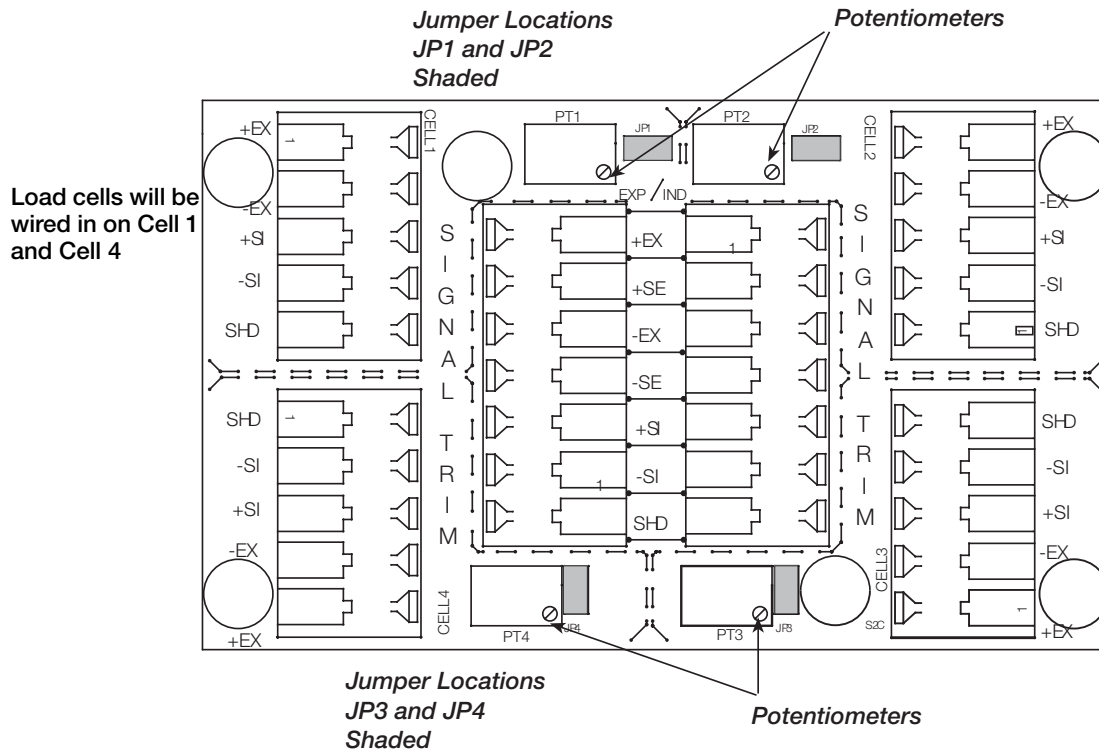

Figure 3-1. Potentiometer Locations
1. Make sure jumpers are in place to enable trimming of the cells corresponding to each load cell. See Figure 3-1 for the location of jumpers JP1, JP2, JP3, and JP4.
2. Set all potentiometers fully clockwise to give maximum signal output from each cell (See Figure 3-1 for location of potentiometers).